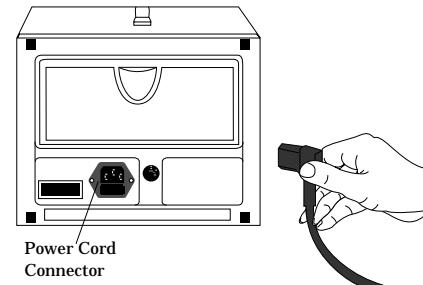

Figure 18
3. See Figure 18. Plug the electrical cord into the power connector on the back of the unit.